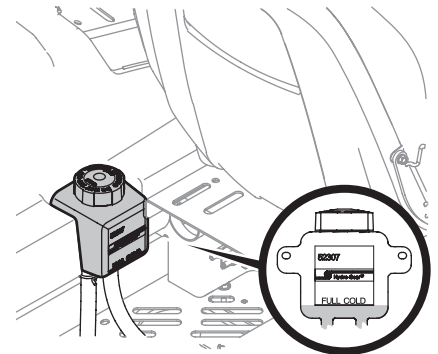

Figure 42
1. Pivot the operator's seat forward and clean the reservoir cap and the area around the cap to prevent debris from contaminating the transmission oil. See Figure 42.
2. Turn the reservoir cap counter-clockwise to remove, then check the oil level in the reservoir. Oil should be visible at the bottom of the cap, but the oil level must NOT be above the "FULL COLD" line. See Figure 42. DO NOT FILL THE RESERVOIR.